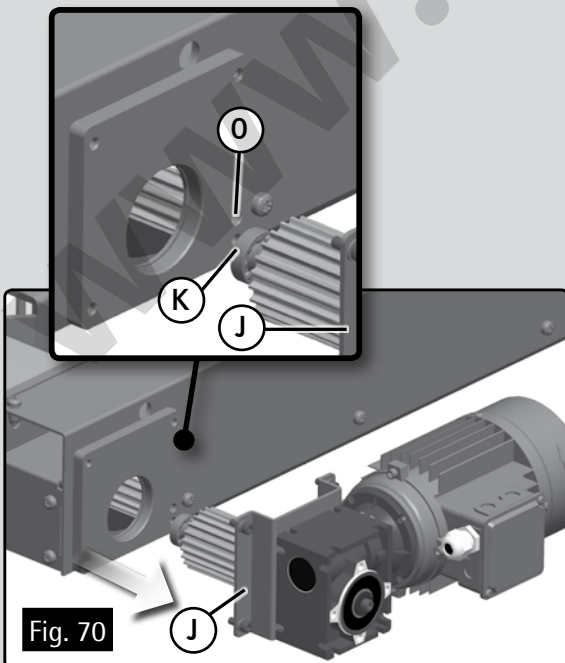

Fig. 70
Remove the motor J (Fig. 70). When removing the motor, be careful not to pull on the cable, as this may damage the internal connections.
The drive shaft, drive roller and the bearing K (Fig. 70) will also come out with the motor J.
- Mount the motor, keeping in mind the positioner O (Fig. 70) and fitting the bearing K (Fig. 70) in its housing.